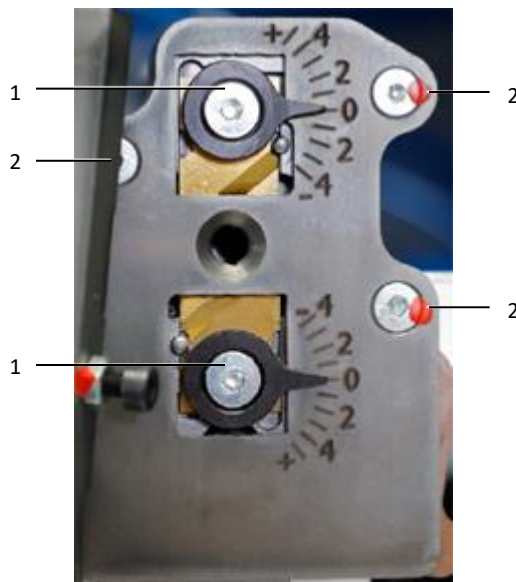

Fig. 17: Insulation stripping unit
- Remove both cams (fig. 17, item 1) (Allen key 2.5 mm).
- Loosen the fastening screws (fig. 17, item 2) (Allen key 2.0 mm) and remove the cover.